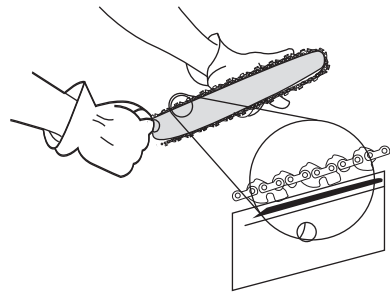

Fig. 39
3. Place the chain over the drive sprocket and into the groove of the guide bar (Fig. 39). Begin at the top of the guide bar.